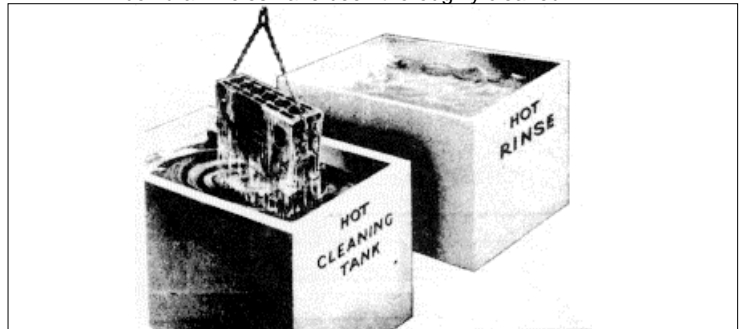

Fig. 7
- (1) Remove the grease by agitating the cylinder block in a hot bath of commercial heavy-duty alkaline solution (Fig. 7).
- (2) Wash the block in hot water or steam clean it to remove the alkaline solution.
- (3) If the water jackets are heavily scaled, proceed as follows: